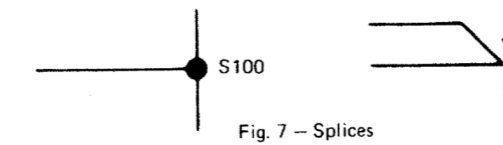

Fig. 7 - Splices
- Splice is shown in Figure 7. A splice is a common point where two wires are joined together. Location of splice is at bottom of schematic page.